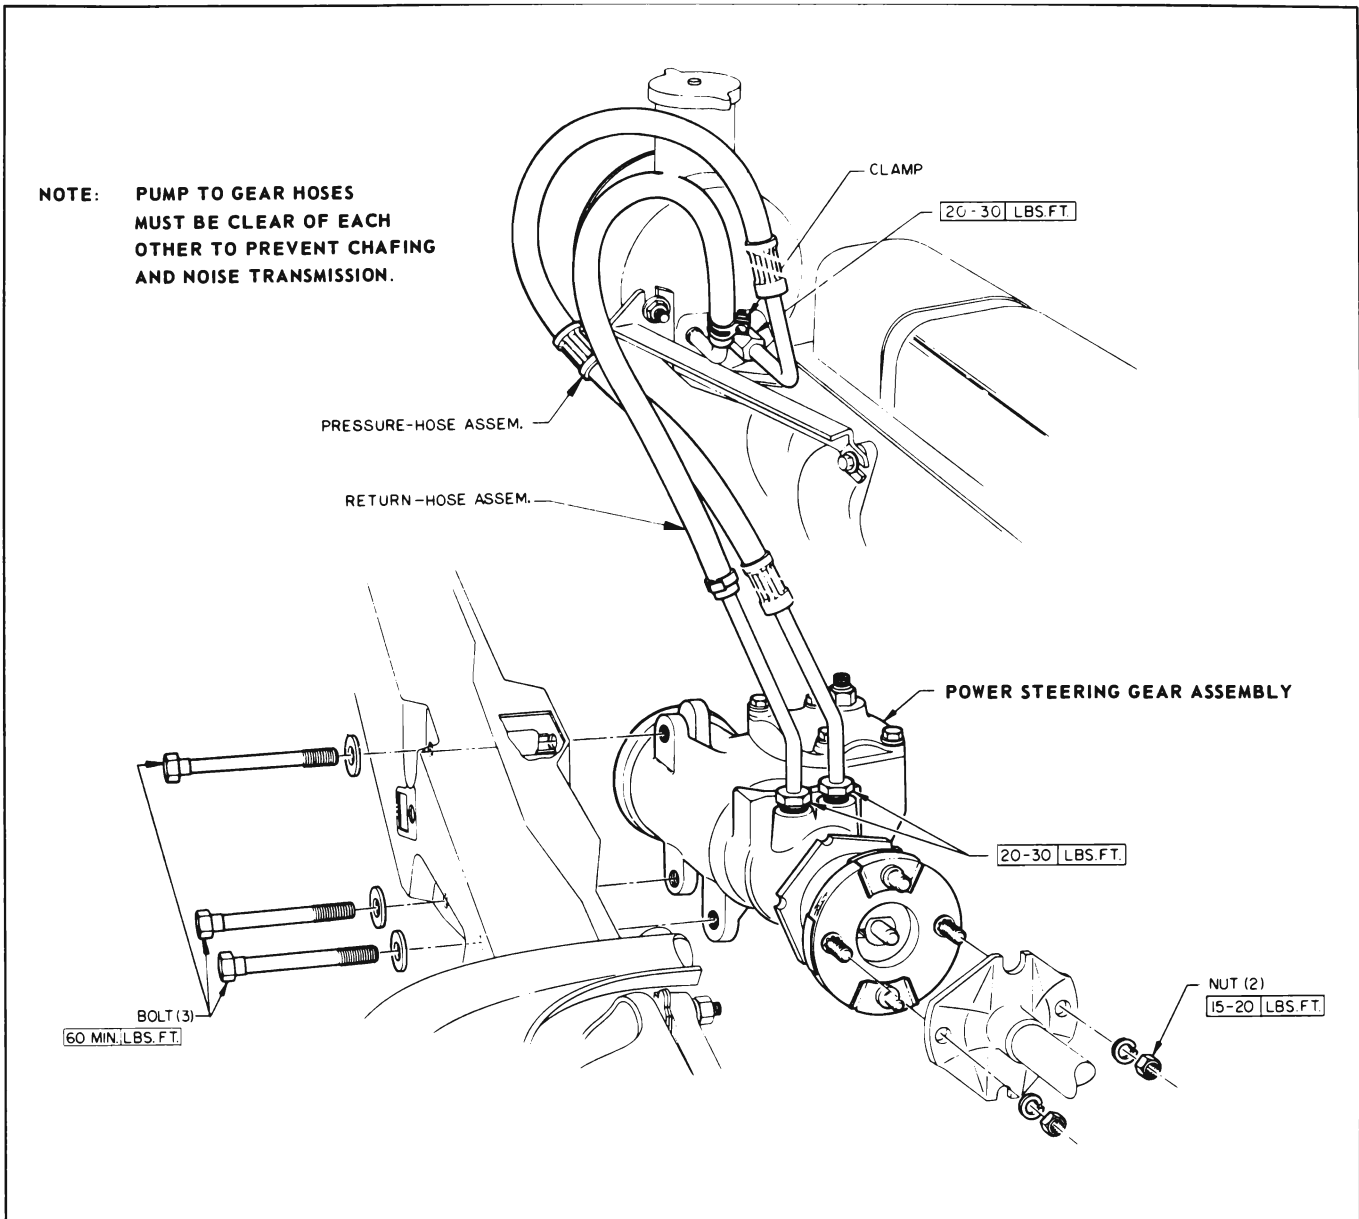

Figure 8-31—Power Steering Gear Installation
3. Remove two nuts securing gear coupling lower flange to steering shaft coupling. See Figure 8-31.
1. Install the gear assembly by reversing the procedure for removal. See Figure 8-31 for tightening specifications. Torque pitman nut 100-140 lb. ft. Torque lower coupling pinch bolt 20-35 lb. ft. Be sure there is 1/16" clearance between adjuster plug and coupling.